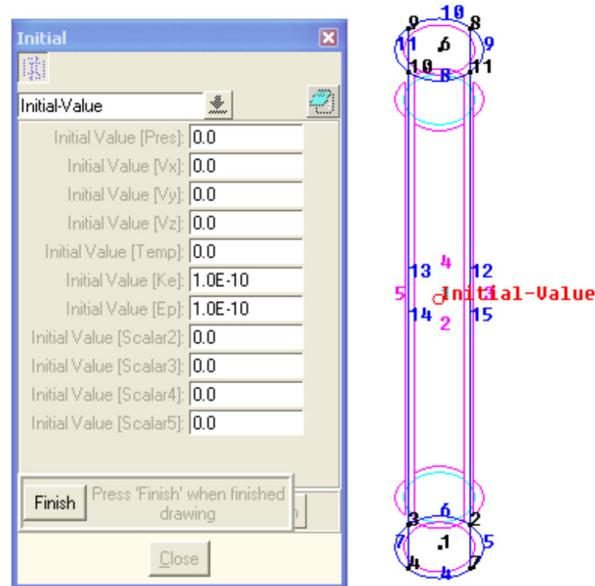

Figure 16: Applying initial conditions
2. Click on **Assign** to assign the default values appearing in the dialog box to a volume. Click on volume 1 (drawn in light blue) to select it, and then click on **Finish**. To check where initial conditions have been applied, click on **Draw** and select **This initial value** to see this initial value applied to the center of volume 1 (Figure 16). Click on **Finish** to close the dialog box.